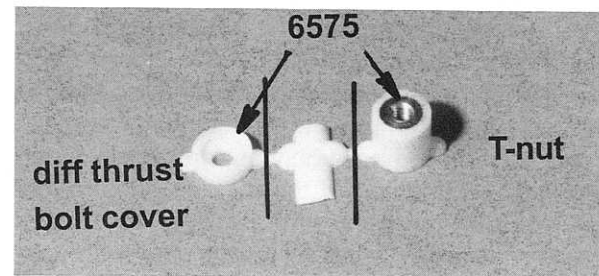
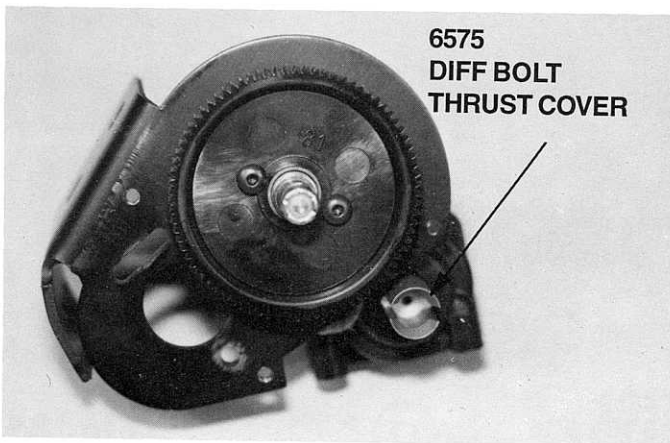

Fig. 43
Fig. 67
□ Figs. 43, 44, 45 & 46 1) Back in bag A you will find a molded parts tree containing the #6575 T-nut and diff thrust bolt cover. 2) Trim the two parts from the tree as shown in fig. 43. **WARNING!! Make sure you do not cut the "ears" off the T-nut or thrust bolt cover. The ears are needed to prevent the parts from spinning freely in the outdrives.** For now set the diff thrust bolt cover aside; we will use it near the end of the transmission assembly.
□ **Fig. 67** Locate the #6575 diff bolt thrust cover we set aside in fig. 43. Install this dust cover into the right diff outdrive over the head of the diff thrust bolt (flat side out). This is the same side as the spur gear, or the opposite side of the T-nut. Your transmission is now completed. If you have any questions about the transmission, refer to the tuning and maintenance section near the end of the manual. Go ahead and set it aside. We will install it later in the manual.